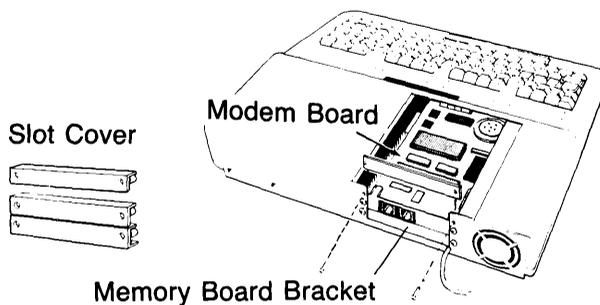

Figure 8. Memory Board and Slot Cover Installation
4. Secure the bracket to the computer's rear panel with the screws provided in the Memory Board package (Figure 8).
7. Snap off 1 segment of the rear panel's break-a-way type slot cover and attach it to the panel with the plastite screws that you removed earlier. Refer to Figure 8.